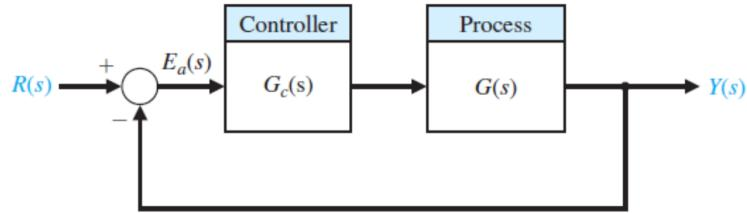

FIGURE E7.28
- E7.28** Consider the feedback system in Figure E7.28. Obtain the negative gain root locus as $-\infty < K \leq 0$. For what values of K is the system stable?